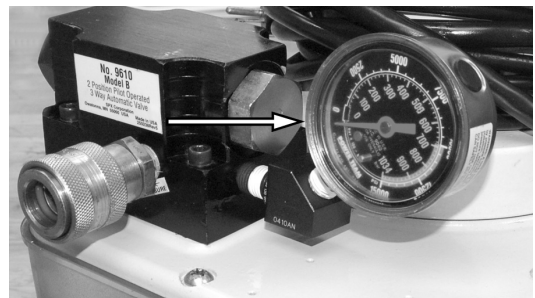

Figure 6. Pressure Gauge Installation
4. See Figure 6. Install the pressure gauge.